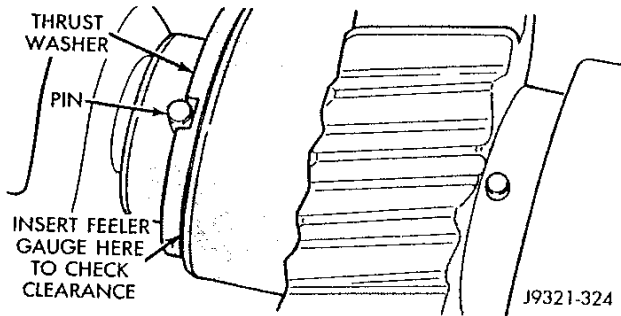

Fig. 54 Checking Idler Gear Thrust Washer Clearance
(5) Partially install idler shaft pins. Insert pins only far enough to hold thrust washers in place.
(6) Check idler gear thrust washer clearance (Fig. 54) as follows:
(1) Install counter gear and shaft in case. Refer to procedure in this section.
(2) Install idler shaft part way into case from front.
(3) Assemble and install reverse idler gear and thrust washers.
(4) Install rear pin in idler gear and shaft. Then install front pin.
(5) Check idler gear thrust washer clearance (Fig. 54) as follows: